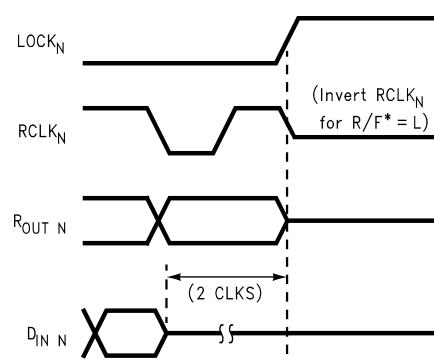

Figure 6. Unlock
(1) The routing of the Din inputs to the Deserializers and to the CHTST outputs are dependent on the states of SEL [0:2].
(2) Rout n[0:9] and RCLK [0:5] are Tri-States when LOCKn[0:5] is High.
(3) LOCK Active indicates that the LOCK output will reflect the state of its respective Deserializer with regard to the selected data stream.
(4) RCLK Active indicates that the RCLK will be running if the Deserializer is locked. The timing of RCLK [0:5] with respect to Rout [0:5][0:9] is determined by RCLK_R/F Figure 6